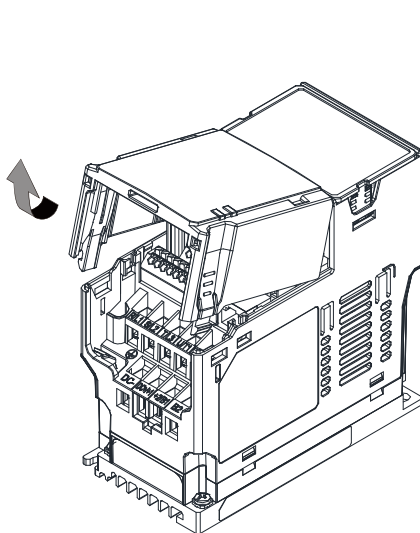

Figure 8-9
1. Turn off the power of the motor drive, and then remove the front cover, as shown in Figure 8-9.